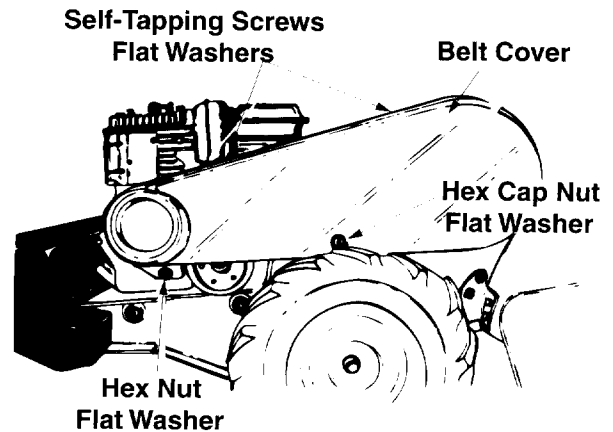

Figure 19
2. Remove the belt cover from the left side of the tiller as follows: See Figure 19. Remove two self-tapping screws and flat washers from the top of belt cover. Remove the hex cap nut and flat washer from the side of the belt cover. Remove the hex nut and flat washer at the bottom of the front of the cover.